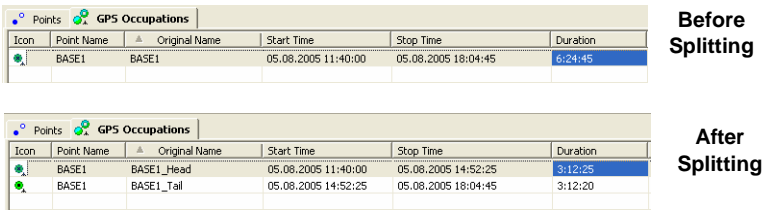

Figure 11-8. Example of Dividing of Occupation by Time
- by Time – specify the moment of dividing of the selected occupation in the *Split Time* field. By default, this time is equal to half of the time of the occupation. Two occupations will be created after clicking **OK**. The *Occupation* tab displays the two occupations instead of the original occupation. The splits will be named “<original occupation name>(Head)” and “<original occupation name>(Tail)” (Figure 11-8 on page 11-10).